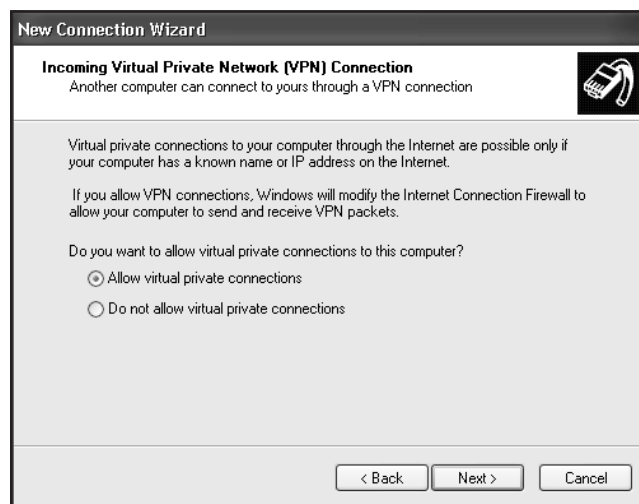

Figure 191 Selecting the VPN Connection
7. Select “Allow Virtual Private Connections” as shown in Figure 191. Click on **Next**.